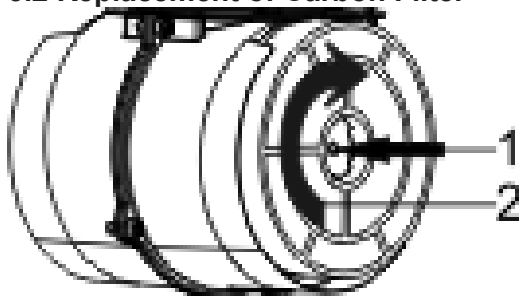

Fig. 6: CARBON FILTER
1. *Place the carbon filter in its housing. Fig. 6*
2. *Rotating the carbon filter clockwise, ensure that it is completely fit. Fig. 6*